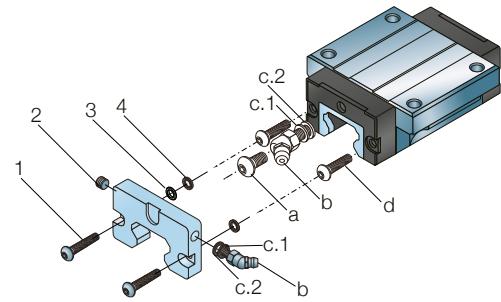

Fig. 32
1. Remove the grease nipple (b) and washers (c.1 and c.2), or the set screw (a) (↳ fig. 32)
3. Attach the adapter plate with sealing ring (3) onto the end plate, and position it accurately against the latter.
4. Put the washers (4) for mounting screws on both sides.
5. Install the mounting screws (1)
7. Install the set screw (2) on the other side of the adapter plate.